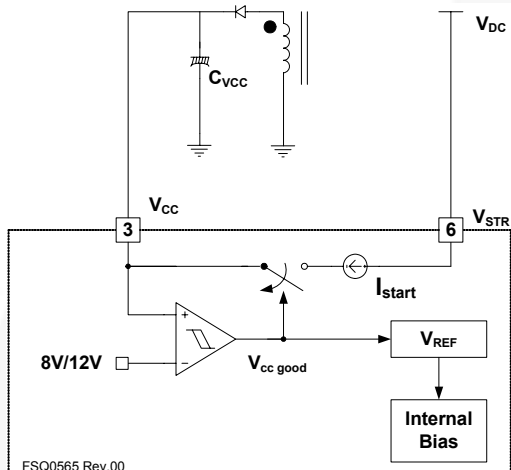

Figure 23. Startup Circuit
**1. Startup:** At startup, an internal high-voltage current source supplies the internal bias and charges the external capacitor ( $C_a$ ) connected to the  $V_{CC}$  pin, as illustrated in Figure 23. When  $V_{CC}$  reaches 12V, the FPS™ begins switching and the internal high-voltage current source is disabled. The FPS™ continues its normal switching operation and the power is supplied from the auxiliary transformer winding unless  $V_{CC}$  goes below the stop voltage of 8V.